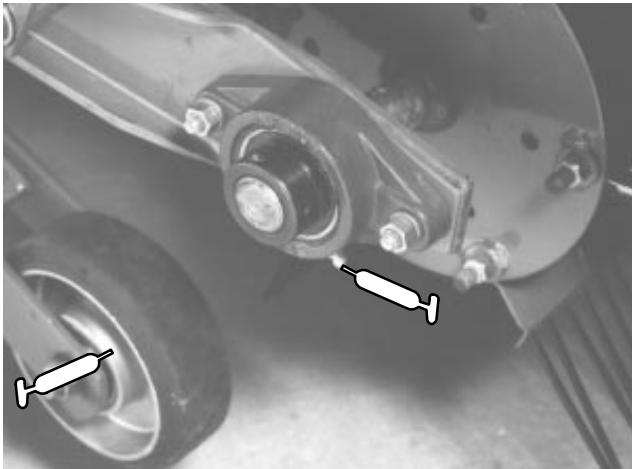
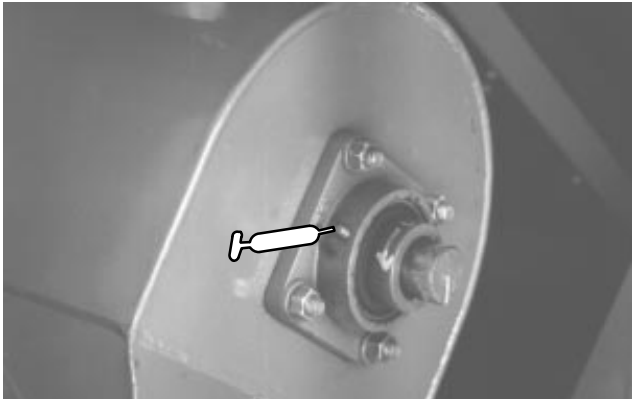
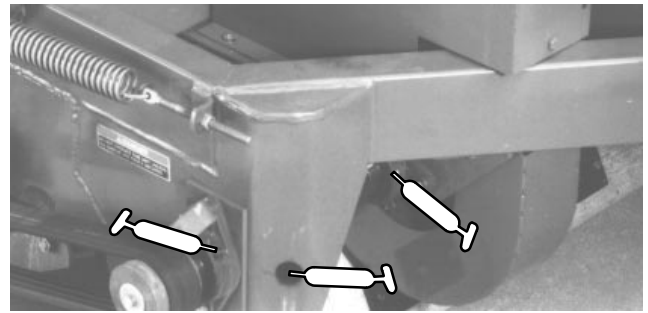
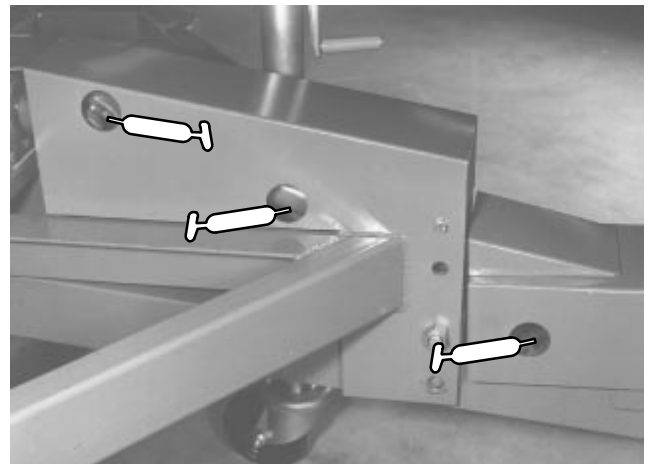

Figure 18
Figure 19
Figure 20
Figure 21
The Rake-O-Vac has grease fittings that must be lubricated regularly with No. 2 General Purpose Lithium Base Grease. Lubricate bearings after every 30 hours of operation or whenever machine is washed with water. Bearings and bushings must be lubricated daily when operating conditions are extremely dusty and dirty. Dusty and dirty operating conditions could cause dirt to get into the bearings and bushings, resulting in accelerated wear. The grease fittings that must be lubricated are the gauge wheel bearings (2) (Fig. 18); reel shaft bearings (2) (Fig. 18); impeller shaft bearings (2) (Fig. 19); Jackshaft bearings (2) (Fig. 20) left and right trailing arms (1 ea.) (Fig. 20) front and rear drive shafts (6) (Model 07052 only) (Fig. 21 & 22).